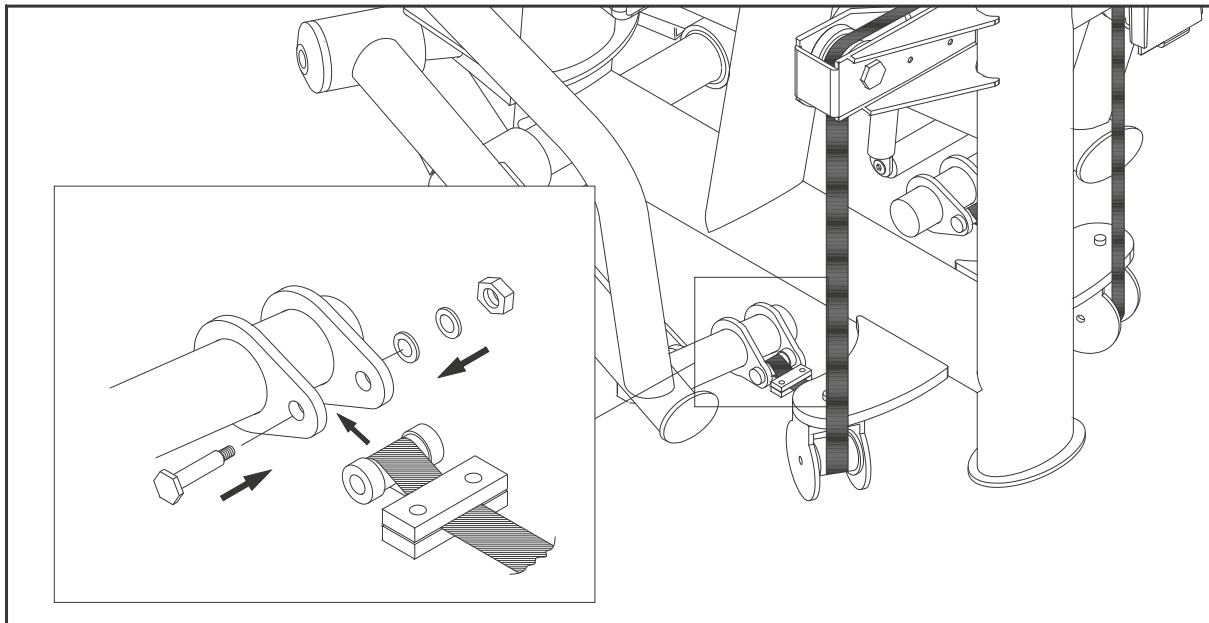

Fig.4
4. Assemble the belt and secure the screws tightly as shown in Fig. 4.